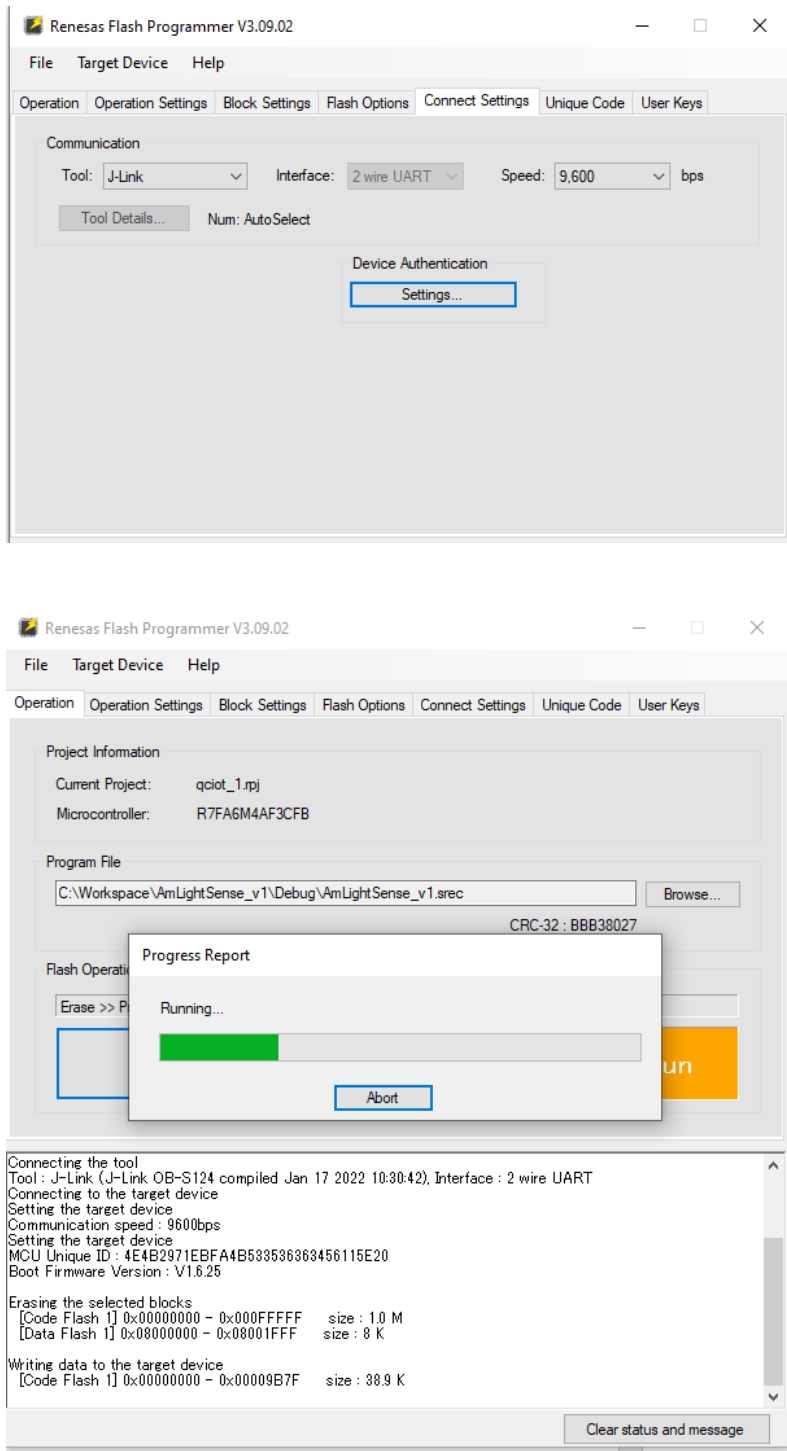

Figure 5. Steps for Flashing and Flash Programmer Settings
2. Flashing and Flash Programmer Settings (see Figure 5):